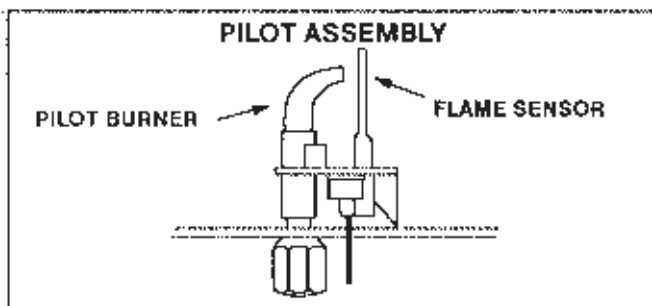

FIGURE 6
- 6 Wait five (5) minutes to clear out any gas. If you then smell gas, STOP! Immediately call your gas supplier from a neighbor's phone. Follow the gas supplier's instructions. If you do not smell gas go to next step.
- 8- Locate pilot—follow metal tube from gas valve. See figure 6. The pilot is between the two burner tubes behind the pilot access panel.